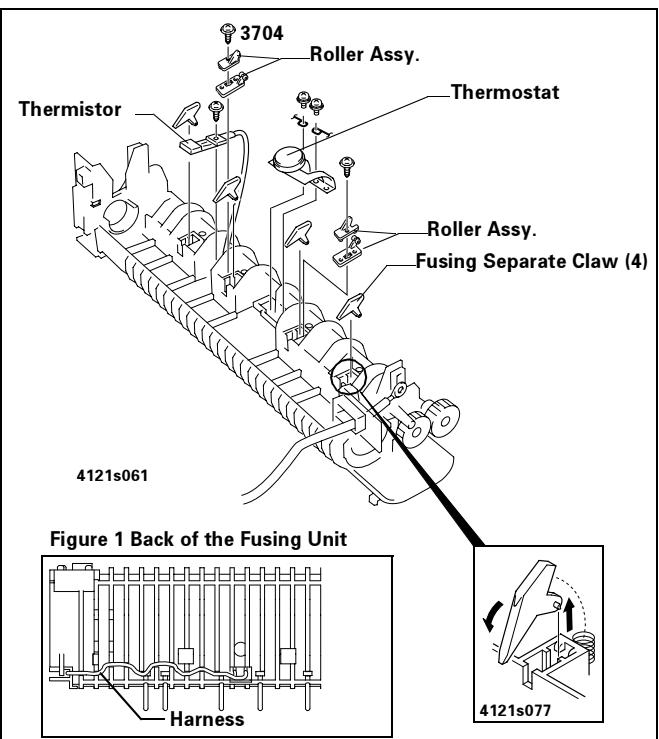

Figure 4-24. Thermistor and Thermostat Removal
**NOTE:** When installing the thermistor, let the harness through as shown in the figure 1 of the Figure 4-24.